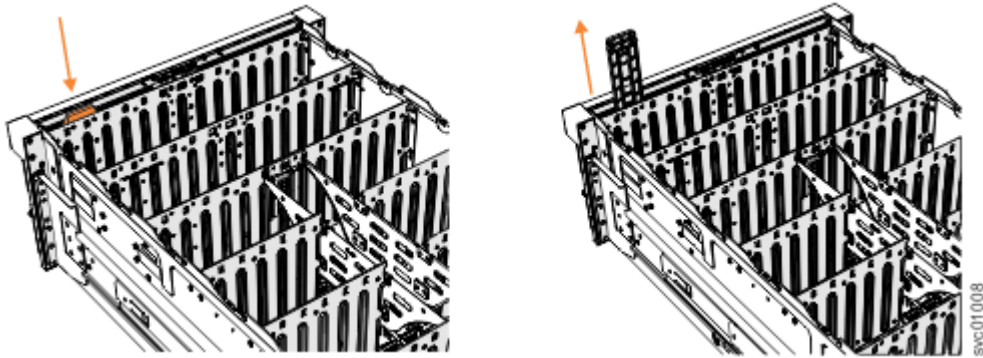

Figure 137. Removing the display panel assembly
3. Press the release tab at the top of the display panel assembly, as shown in Figure 137 on page 191.